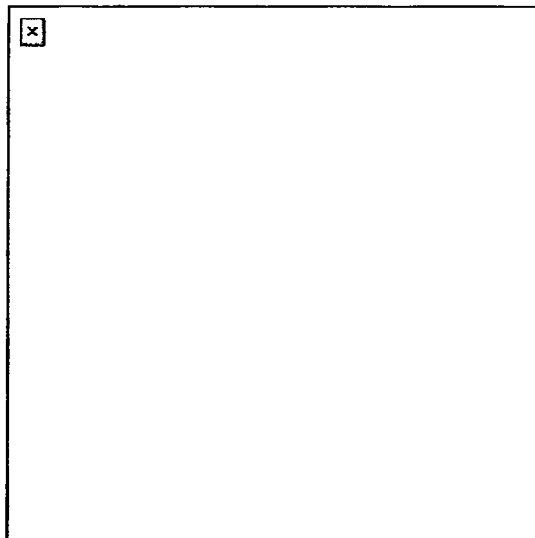

Figure 1. Insertion of first round through feed throat.
2. Make sure the safety switch is in the safe (S) position.
- a. Open the top cover and insert the first round through the feed throat into the feeder, link opening first (Figure 1).